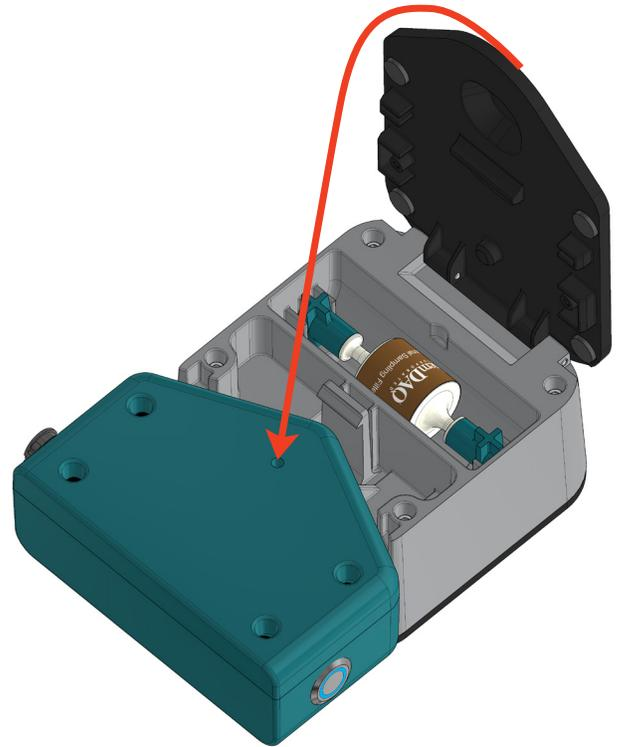

Figure 15B: Close the SPS backplate and engage the latch
- c. Close the backplate, engaging the latch and locking the E-Cell in place. (See figure 15B-15C)